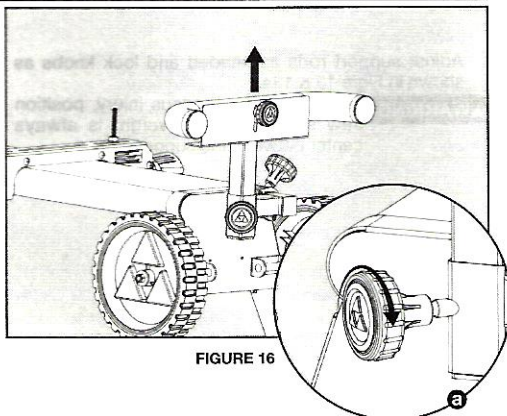

FIGURE 16
1. Raise left end T-support to upper most position and lock in place. See Figure 16 & 16a.